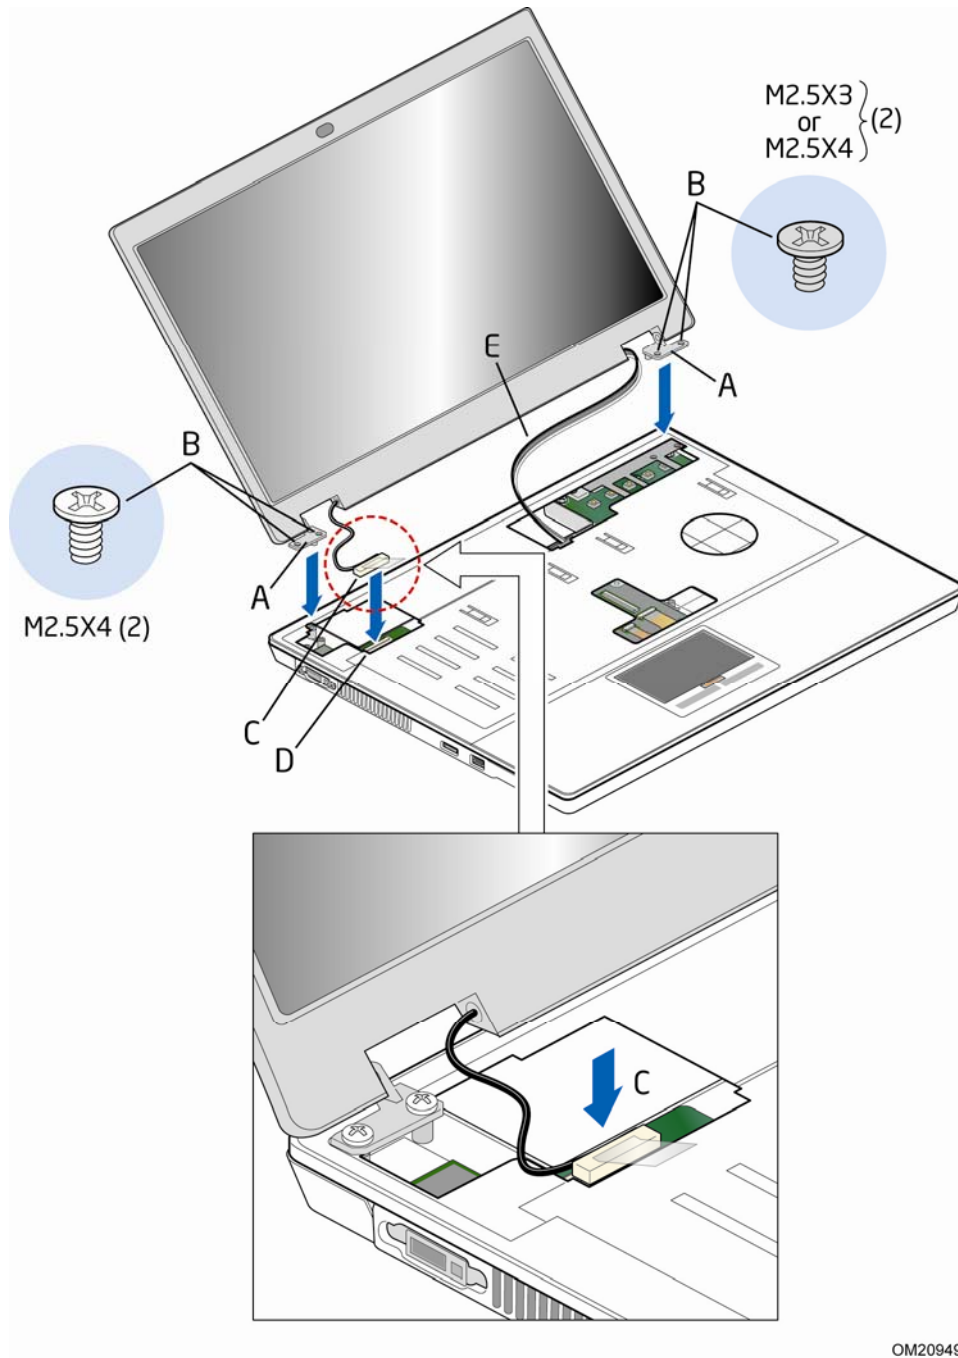

Figure 18. Attaching the Lid/LCD to the Hinges and Connecting the LVDS Cable
This section describes how to attach the lid/LCD to the chassis and connect the associated cables. See Figure 18 and follow these steps:
2. Place the Lid/LCD hinges over the matching holes in the chassis. Note that each hinge has an alignment pin. Attach the hinges (Figure 18, A) with two screws as shown in the figure.
3. Connect the LCD video cable connector (Figure 18, C) to the LVDS connector (Figure 18, D) on the Mobile Board.
4. Route the three antenna cables (Figure 18, E) under the C-plate to the Mobile Board. These cables will be connected in a later section.